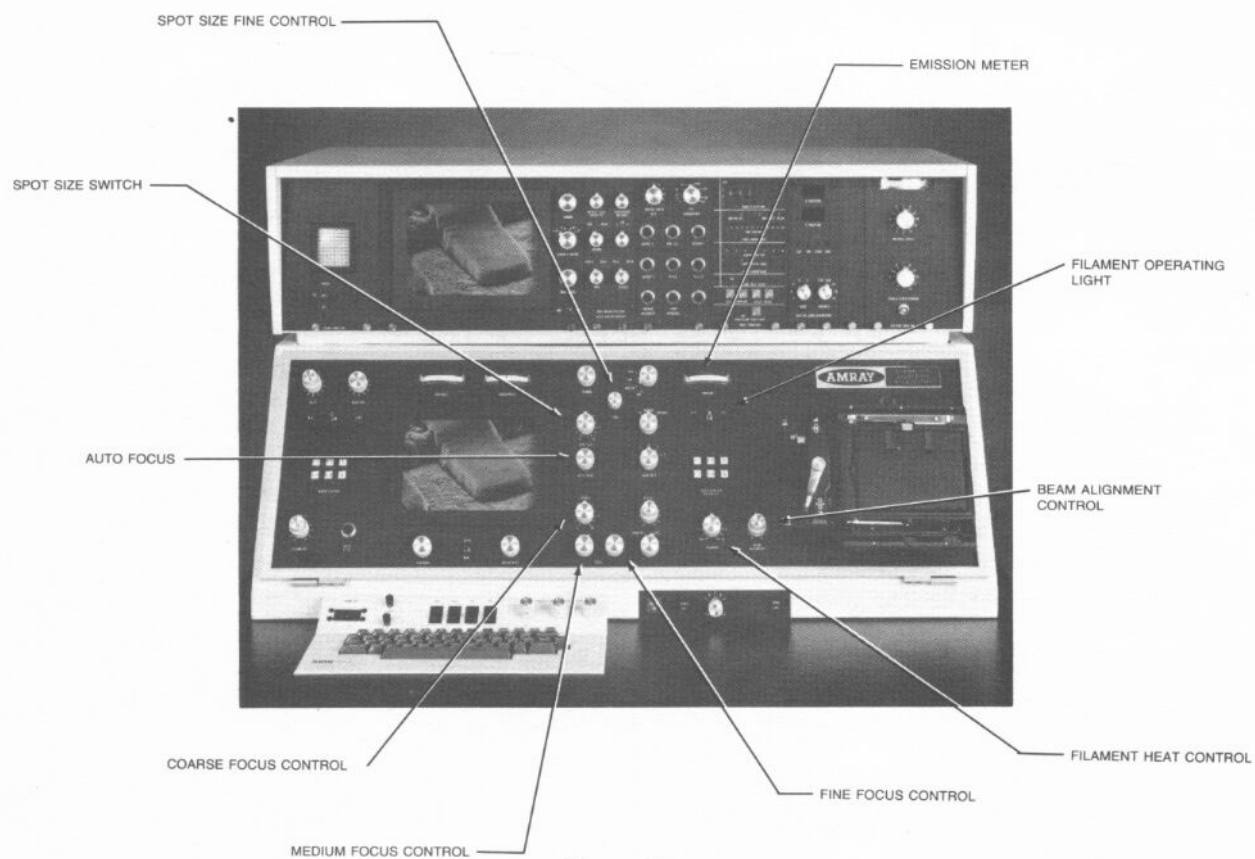

Figure 1.8
G. Electron Optics Control and Compensation (figure 1.8)